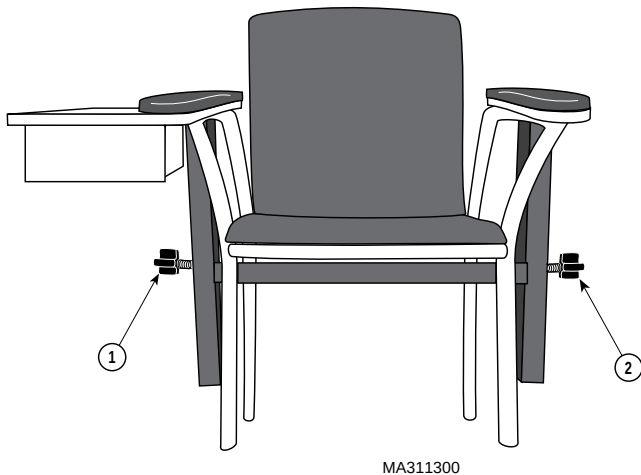

FIGURE 5
7. Place the drawer assembly into the remaining side of the "H"-Frame. Tighten knobs "1" and "2" (Fig. 5).